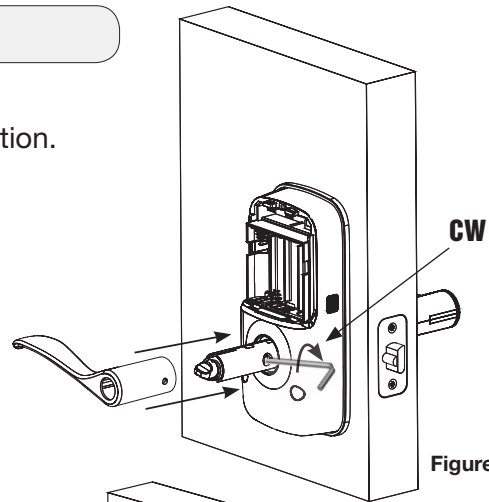

Figure 22
- A. Place set screw in hole on side of shank toward latch (Fig. 22); turn set screw **CW** to allow for placement of lever handle over shank.